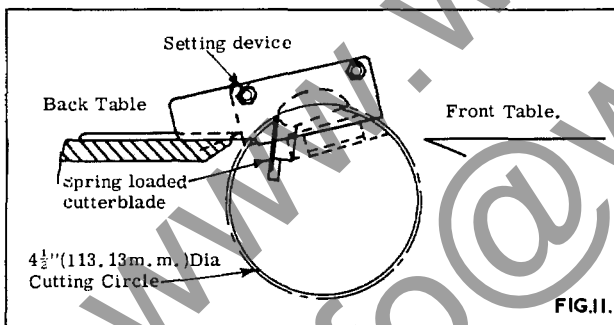

FIG.11.
2. Turn the cutterblock to approximately the position shown in fig. 11 and slacken the securing screws until the knife is just free of the cutterblock. Care should be taken when loosening the last screw as the knives are spring loaded.
3. To re-set the knives the cutterblock should be in approx. the position shown in fig. 11 Place the knife in the slot making sure all faces are clean and the clamping bar free from burrs. Press the knife into the cutterblock with the setting device until the four predominant pads rest on the outer surface of the cutterblock and the end stop plate is pressed against the rebate side of the back planing table. Position the knife so that its end butts against the stop plate so as to line up the tip of the knife with the edge of the rear table.